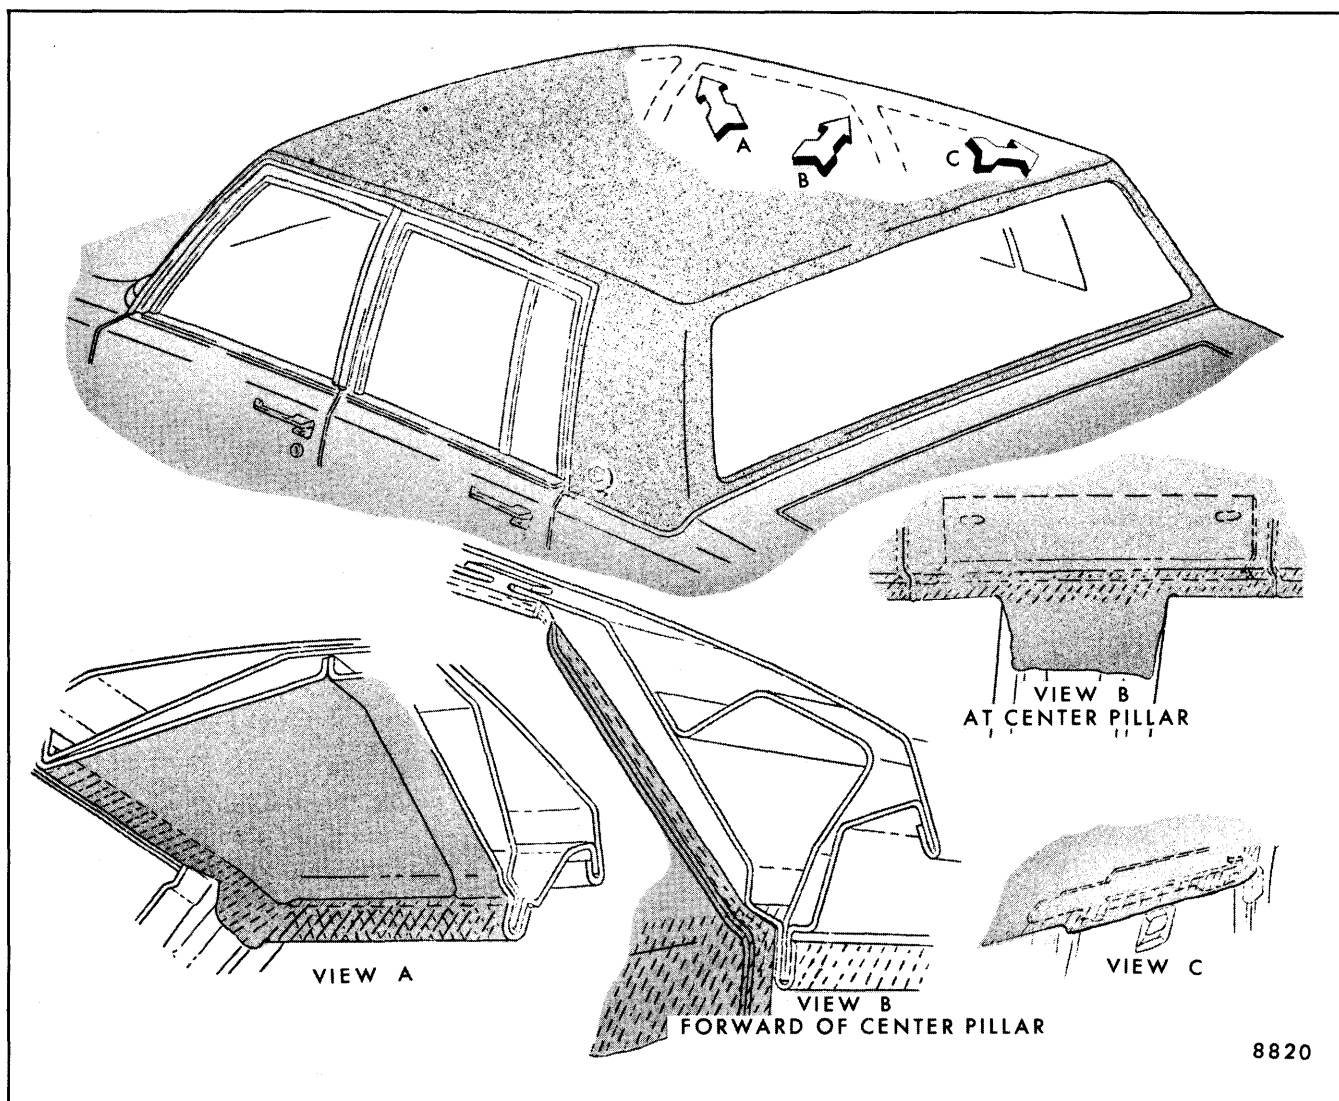

Fig. 8-8-Trim Cement Application to Headlining
- Apply an approved non-staining trim cement to headlining surface at windshield, side roof rail and back window (see Fig. 8-8).